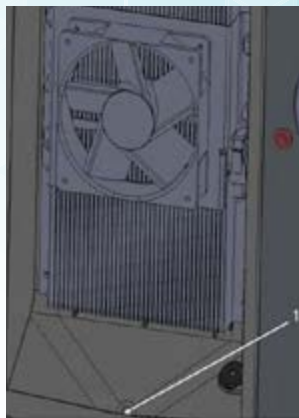

Figure 1. Condensate drain (1)
2. Loosen two bolts (1, Figure 1) and unhook to remove the air baffle (2, Figure 2) to the chamber.